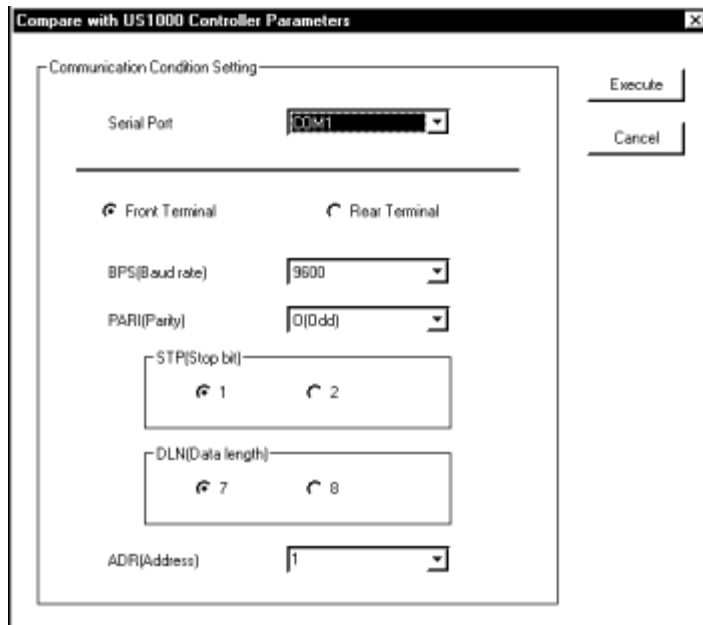

Figure 6.3.1 [Compare with US1000 Controller Parameters] Dialog Box.
- (1) From the tool menus, choose <Communication>, then <Compare...>. The [Compare with US1000 Controller Parameters] dialog box (Figure 6.3.1) appears.
- (2) From the <Serial Port> drop-down list box, choose a communication port of the personal computer.
- (3) Click the <Front Terminal> option button.
- (4) After connecting the equipment, click the <Execute> button.
- (5) When all parameter data match, a message appears saying *No non-matching parameter detected*.
- (1) **From the tool menus, choose <Communication>, then <Compare...>. The [Compare with US1000 Controller Parameters] dialog box (Figure 6.3.1) appears.**
- (2) **From the <Serial Port> drop-down list box, choose a communication port of the personal computer.**
- (3) **Click the <Rear Terminal> option button.**
- (4) **Set the RS-485 communication parameters:**
- (5) **After connecting the equipment, click the <Execute> button.**
- (6) **When all parameter data match, a message appears saying *No non-matching parameter detected*.**